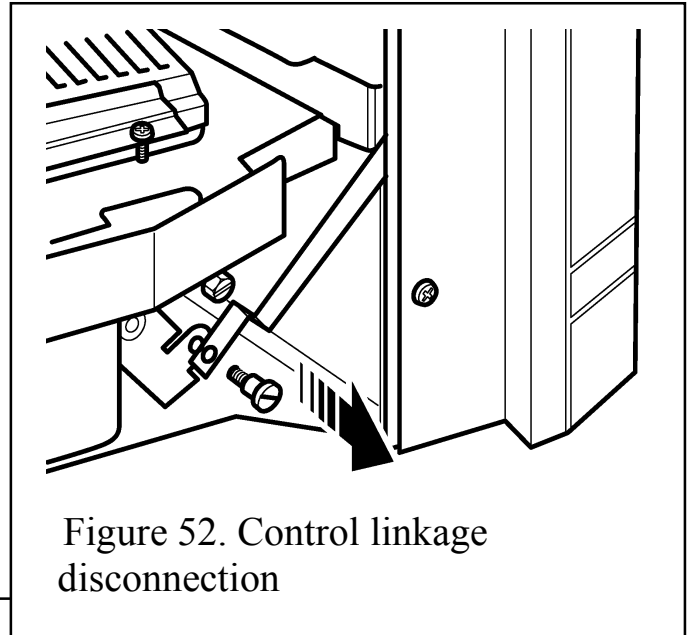

Figure 52. Control linkage disconnection
3. Detach the control-linking bar from the control pivot bracket by removing the knurled screw, which joins the control linking bar to the control pivot unit. See figure 52.